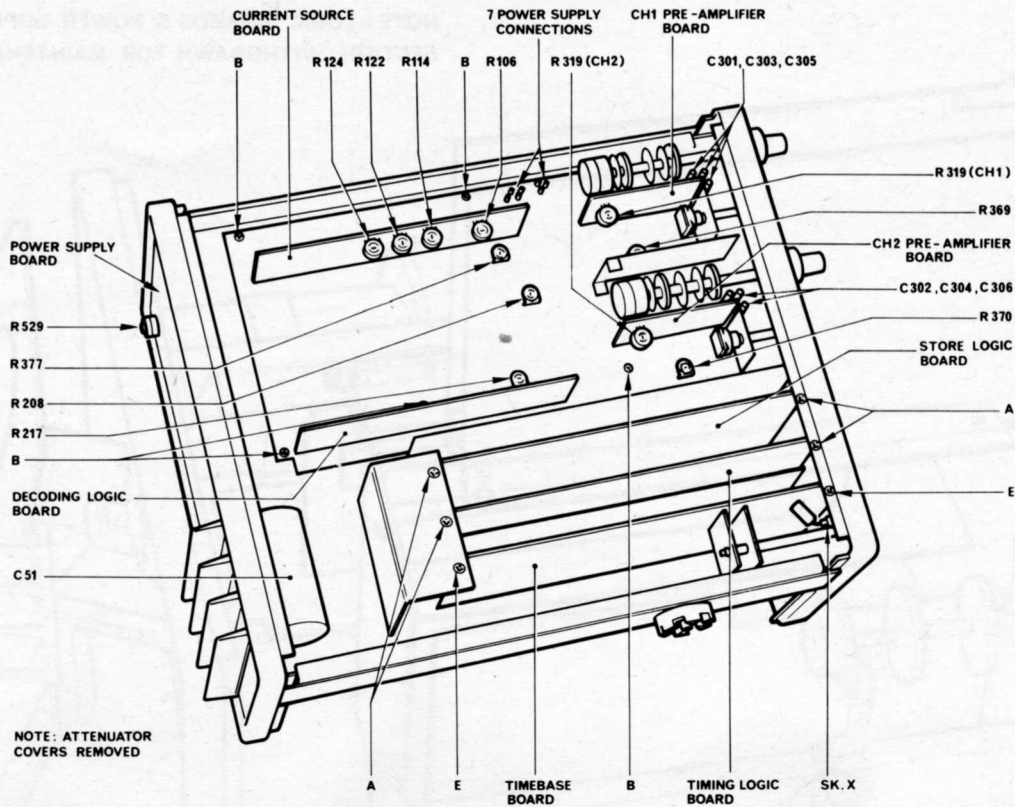

Fig. 14 Bottom View
Figures 14 and 15 illustrate the internal layout of the instrument and show the positions of the majority of preset components when the top and bottom covers have been removed. Each cover is retained in position by four latch fasteners. Each fastener is released by turning it one quarter of a turn clockwise or counter clockwise.
2. Remove the 8 screws marked 'A' in Figs.14 and 15.